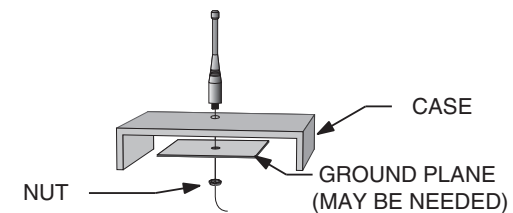

Figure 25: Remote Ground Plane
6. In some applications, it is advantageous to place the module and antenna away from the main equipment (Figure 25). This can avoid interference problems and allows the antenna to be oriented for optimum performance. Always use  $50\Omega$  coax, like RG-174, for the remote feed.